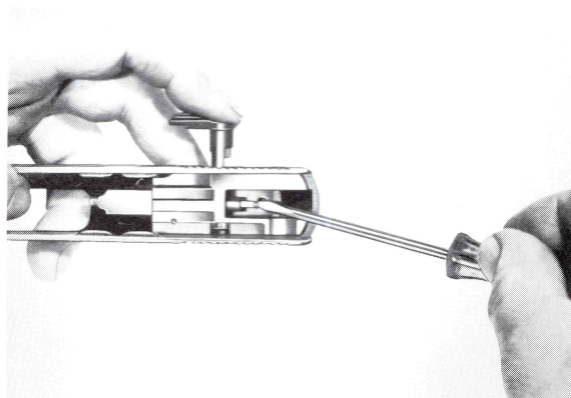

Fig. 16
- Insert the safety catch, push the firing pin fully forward ensuring that the nose on the end of the firing pin is visible (Fig. 16).